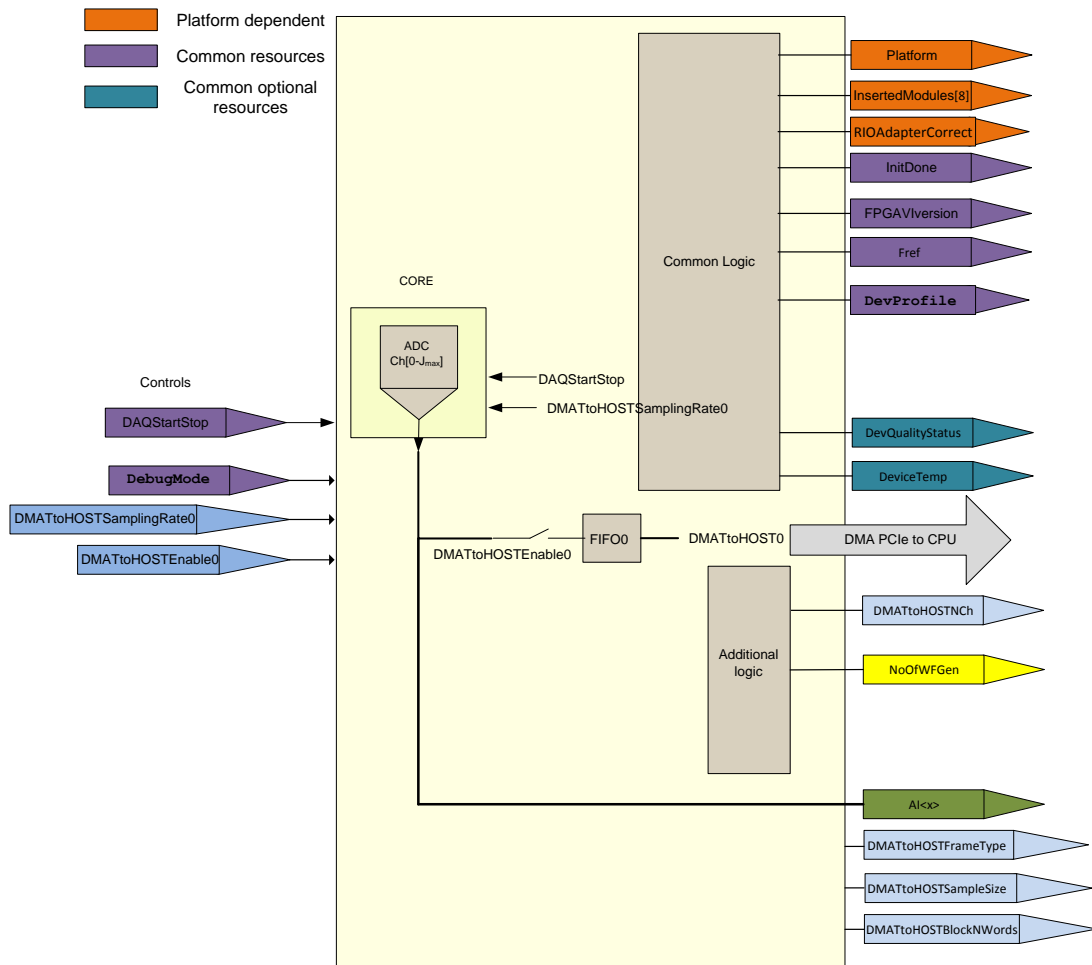

Fig. 12: Example of how to add an analog input terminal. X can be a value in the range 0 .. 3.
**AI<x>:** I32 indicator. The FPGA LabVIEW programmer can add read-only registers (indicators) with the last sample acquired from an analog input (see Fig. 12). This indicator will be updated at the sampling rate programmed for the channel. The nomenclature for naming the indicator will be "AI" followed by the number of the channel. The maximum number of AI terminals is 4.  $x \in [0,3]$ .